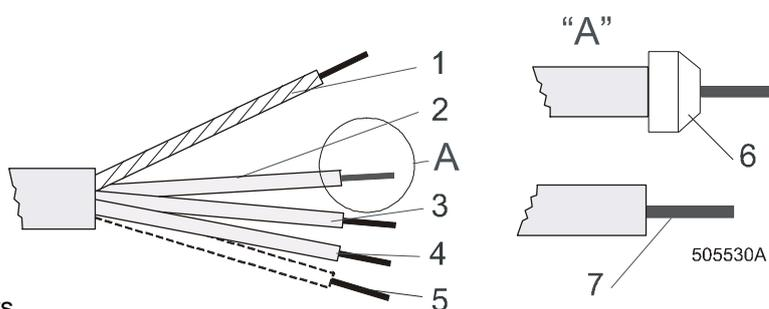
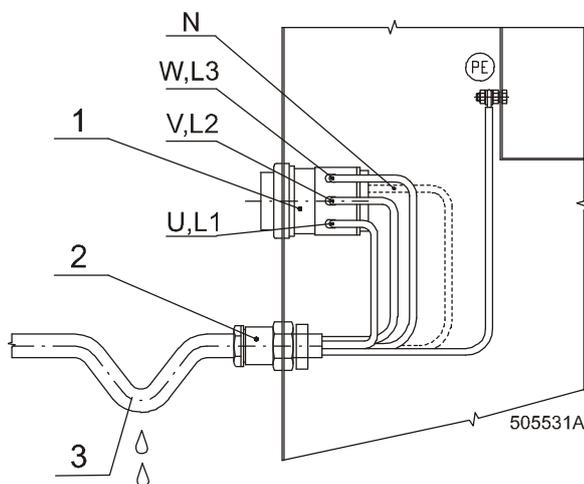

Figure 28 – Adaptation of conductor ends of supply cable
Figure 29 – Connection of main power inlet
- Strip the conductor ends according figure 28.
- With stranded conductors, use “wire end tubes” with an insulated sleeve (6) for L1/U, (L2/V), (L3/W), (N) conductors. Make sure there can not be make accidental contact, since the supply cable stays under voltage even when the main switch is off.
- Connect the supply cable conductors to the incoming terminals (main switch (1)) marked with L1/U, (L2/V), (L3/W), (N), and the terminal (copper screw) marked with PE, see figure 29.
- Provide a sag in the cable, in front of the cable strain relief. This will avoid ingress of condensed water into the machine, see figure 29.